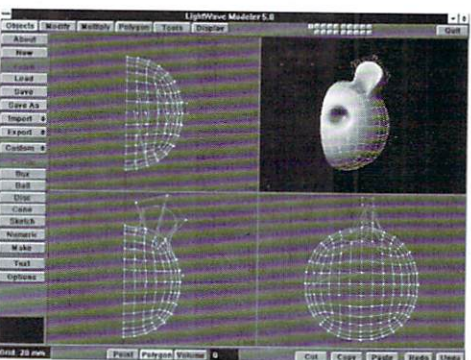

Figure 2
•Next, we'll need to give the bear head a basic eye-socket. This can be done very easily. Choose a point where you want the center of the eye to be. I chose the point located at approximately (25 mm, 12 mm, -58 mm). Select this point, being sure to deselect any others you pick up on the back of the head. In the Top View, move this point back into the head (-16 mm, 0 mm, 60 mm). Finally, deselect all points and polygons (Figure 2).